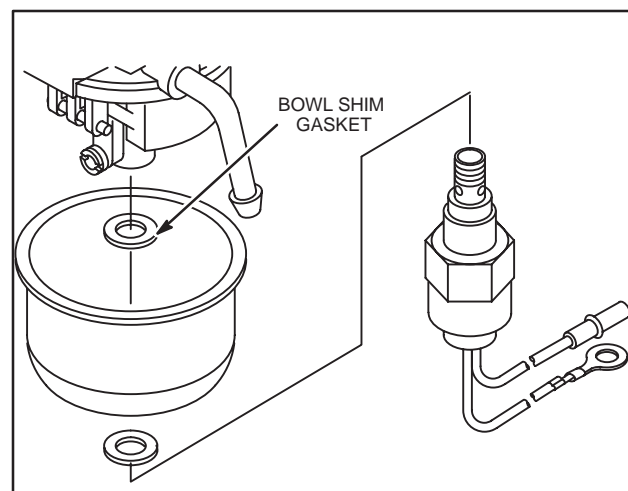

Fig. 28 – Removing Float Bowl
1. Remove fuel shut off solenoid and gasket. Remove float bowl and bowl shim gasket, Fig. 28.